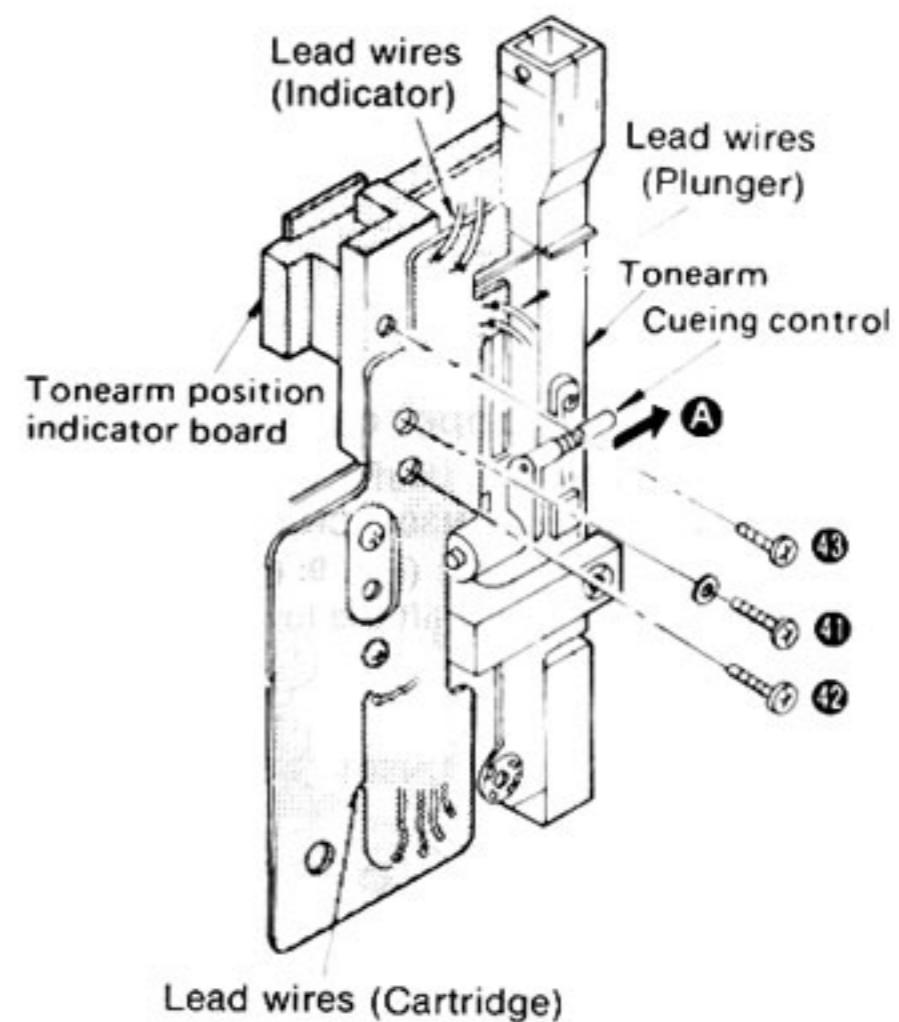

Fig. 11
2. Unsolder the 2 lead wires from the indicator (Fig. 11)
3. Remove the tonearm position indicator board setscrew (Fig. 11: ④3).